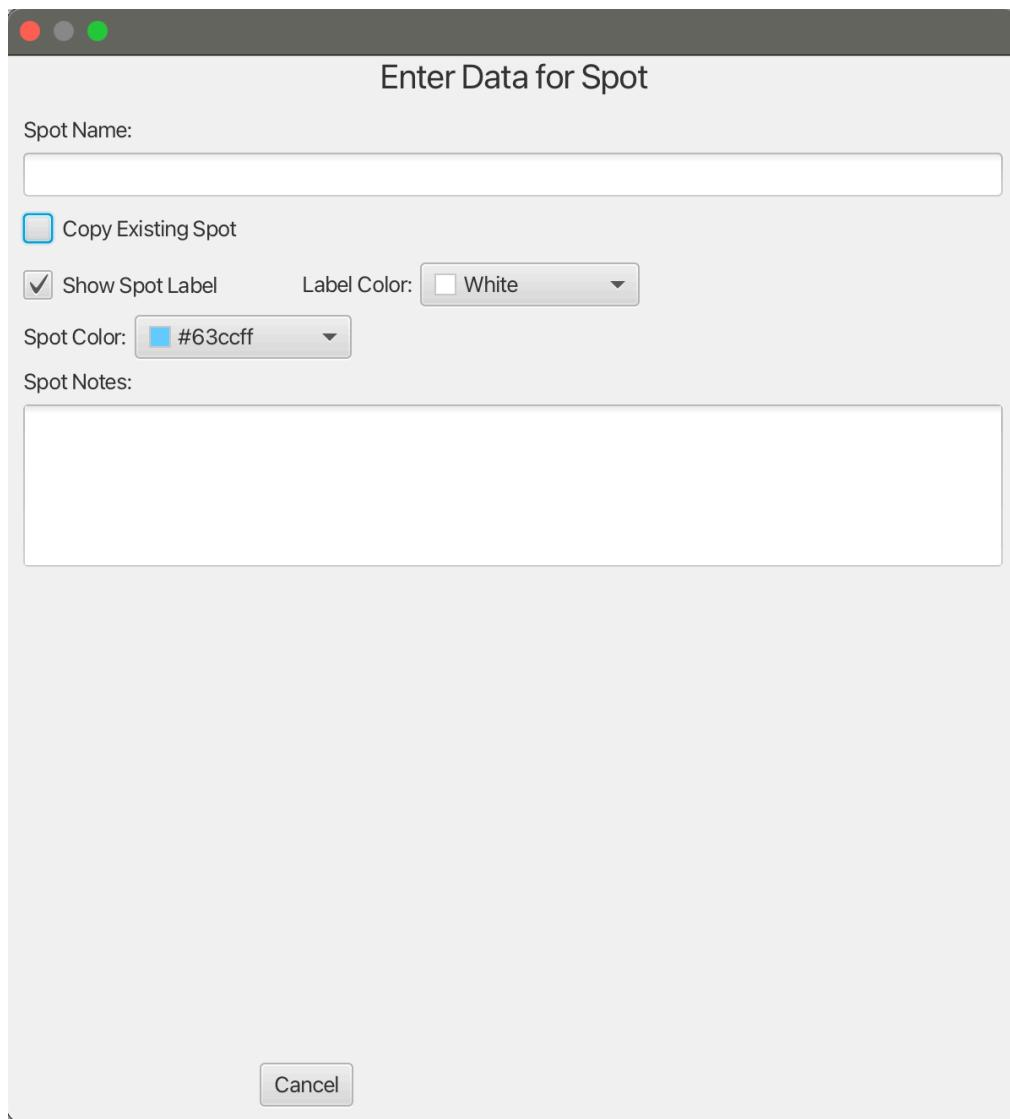

Figure 18: Add Spot configuration modal showing customization options for spot name, label color, spot color, transparency, and notes.
5. **Fill out spot information:** Once the spot is placed, a configuration modal appears (see Figure 18).
After selecting a spot type—**Point**, **Line**, or **Polygon**—a configuration modal appears (Figure 18) allowing you to define the following: